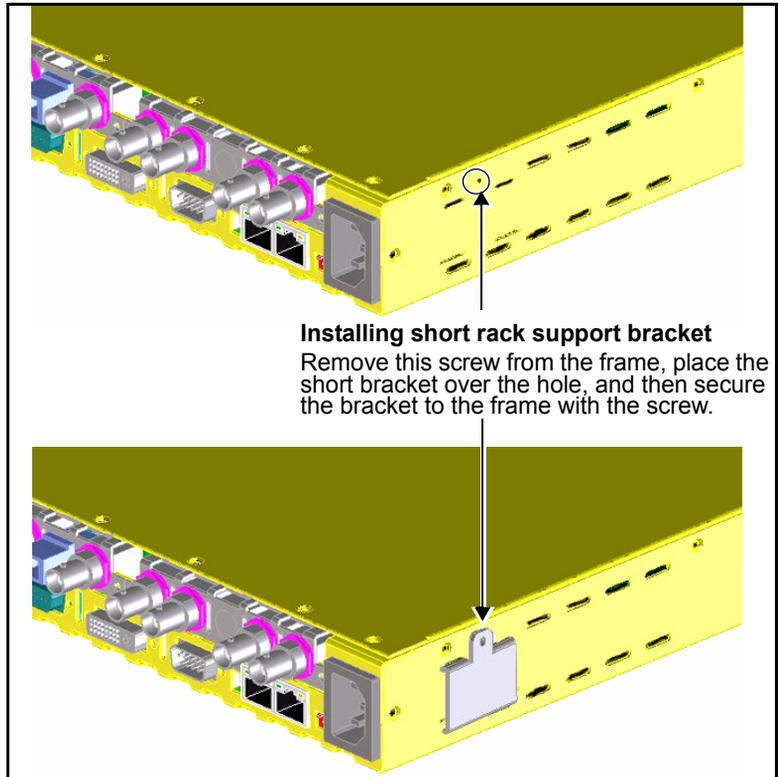

Figure 4-2. Location of Short Bracket Support Screw
2. Attach the short rack support brackets to the sides of the X75HD/X75SD frame using the screws that are provided in the frame holes. (See Figure 4-2 on page 73.)